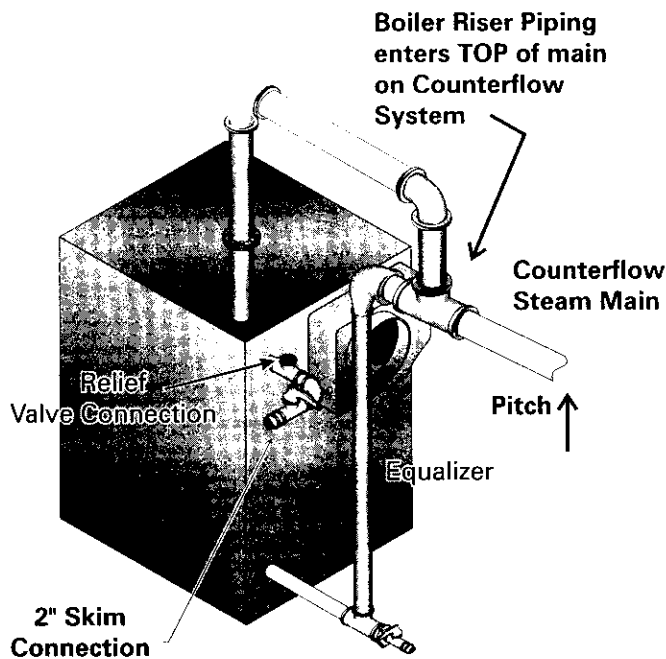

Figure 20: Supply and Return Piping – Counterflow Gravity Systems
5. Counterflow Gravity systems require the boiler steam line to **enter the top of the steam main**. See Figure 20 for this special case.